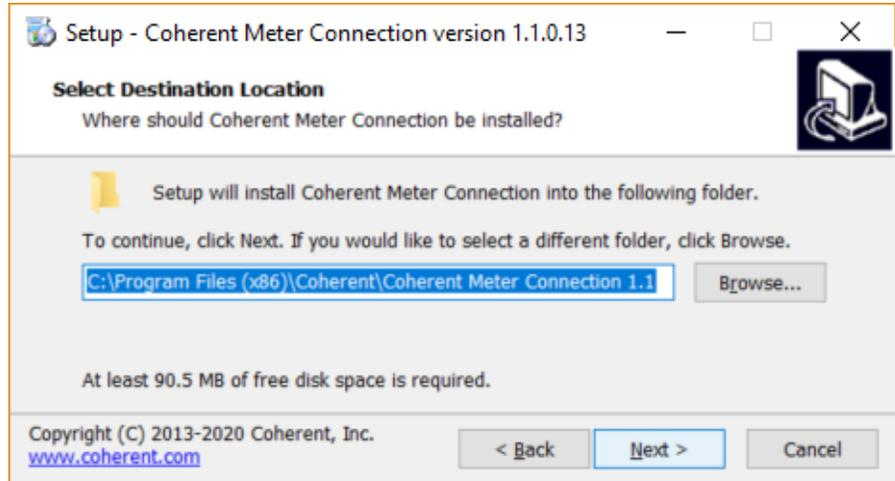

Figure 1-6. Select Directory to Install Software
6. The window shown in Figure 1-6 is displayed. Accept the selection for the destination location or browse to select a directory on the workstation where you want to install the software, and click Next.